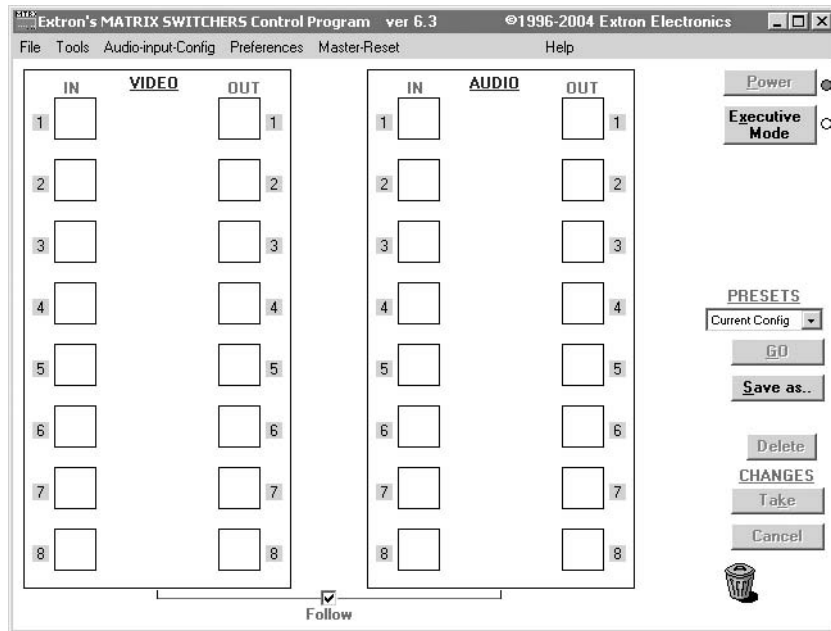
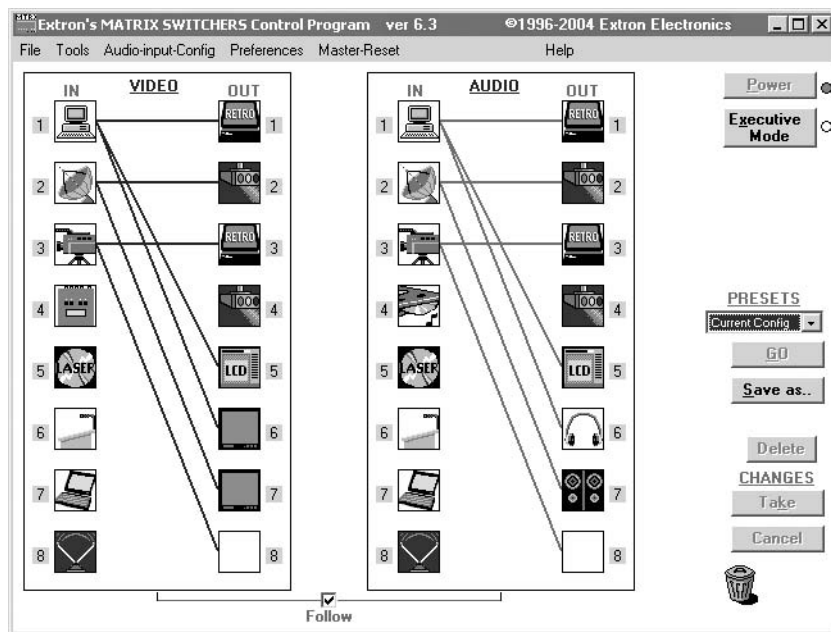

Figure 4-9 — Extron Matrix Switchers Control Program window (blank)
Figure 4-10 — Sample program window (complete)
3. The Extron Matrix Switchers Control Program window (figure 4-9 and figure 4-10) displays the current configuration of the attached matrix.
Once the status bar has progressed fully from left to right across the indicator window, the firmware loader utility automatically resets the switcher (figure 4-10).